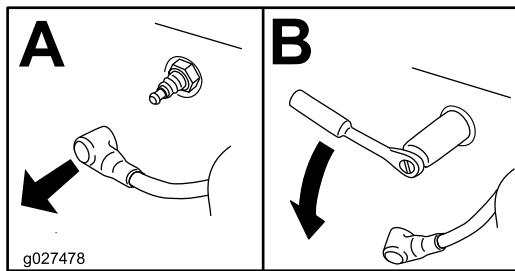

Figure 47
- Remove the spark plug (Figure 47).